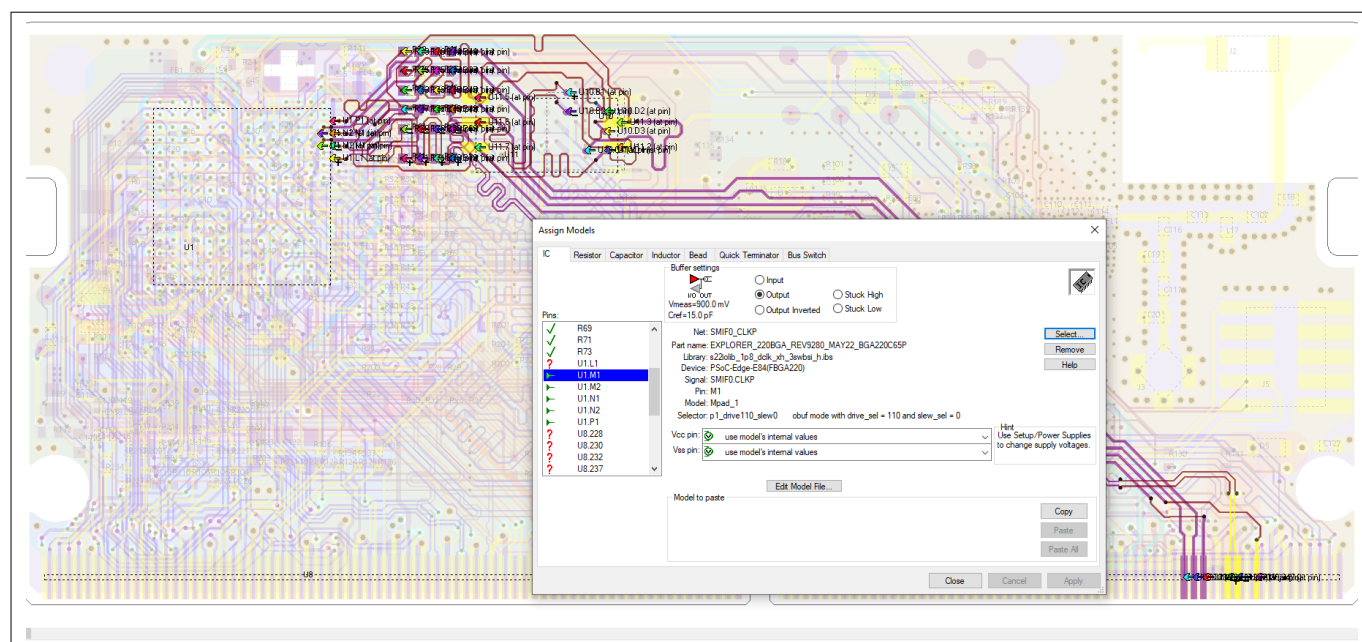

Figure 13 SMIF0 differential routing SOM board
- Single board, Octal flash, and Quad flash SMIF0 differential routing SOM board (Figure 13)